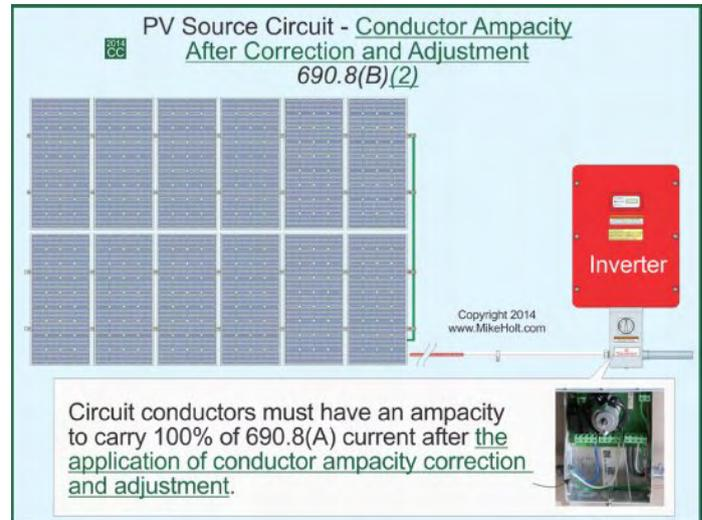

Figure 690-44
(2) After Ampacity Correction or Adjustment. Circuit conductors must have an ampacity to carry 100% of 690.8(A) current after the application of conductor ampacity correction [310.15(B)(2)(a) and 310.15(B)(3)(c)] and adjustment [310.15(B)(3)(a)]. Figure 690-44